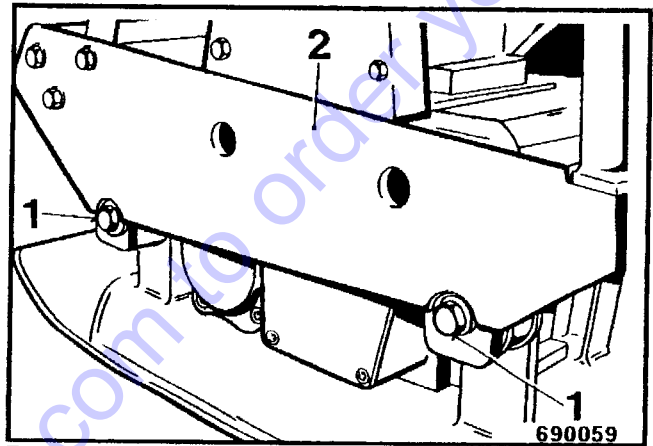

Fig. 1
- Loosen two mounting screws 1 (Fig. 1) on each side and take the engine mounting plate (2) off the base plate.